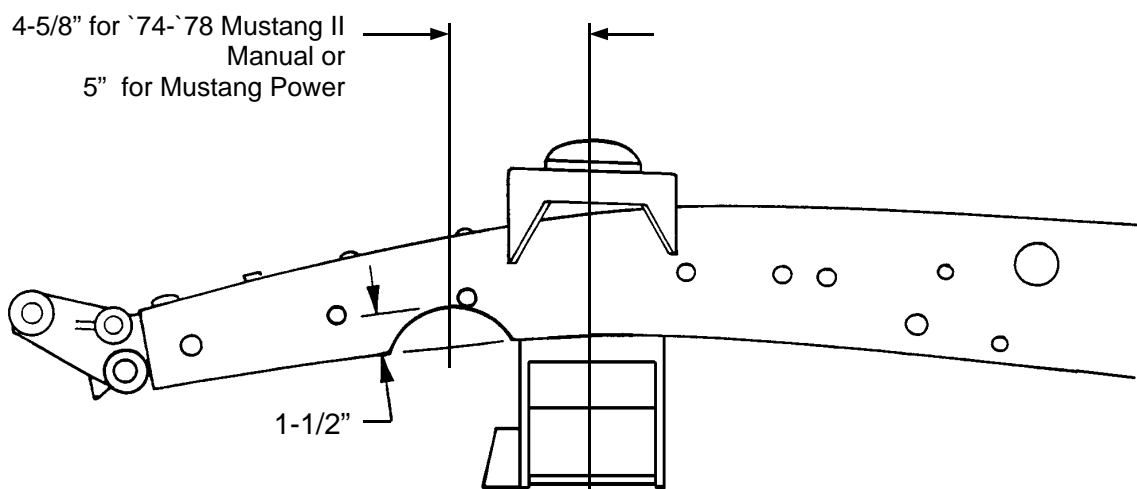

Figure 5
8. The C-notch for the rack is the last part to be done. Measure forward from the centerline 4-5/8" for '74-'78 Mustang II manual or 5" for Mustang power rack, and up 1-1/2" and make a mark. Now draw a 2-1/8" radius, using your mark as the top of the radius. See Figure 5. Trim out the material marked, leaving about 1/8" to work with, and then try the rack and the C-notch filler piece. Finish grind the notch for fit and location, and tack the filler pieces in place. Remove the rack.